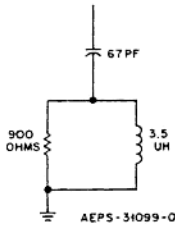

Figure 4. Antenna Simulator Circuit for Models T1959A, T1961A, T1962A (2-10.8 MHz)
3.3 Circuits for construction of the antenna simulator are shown in Figures 4 through 6.
Figures 4 and 5 apply only for 23 to 60 foot antennas, whip or long wire.